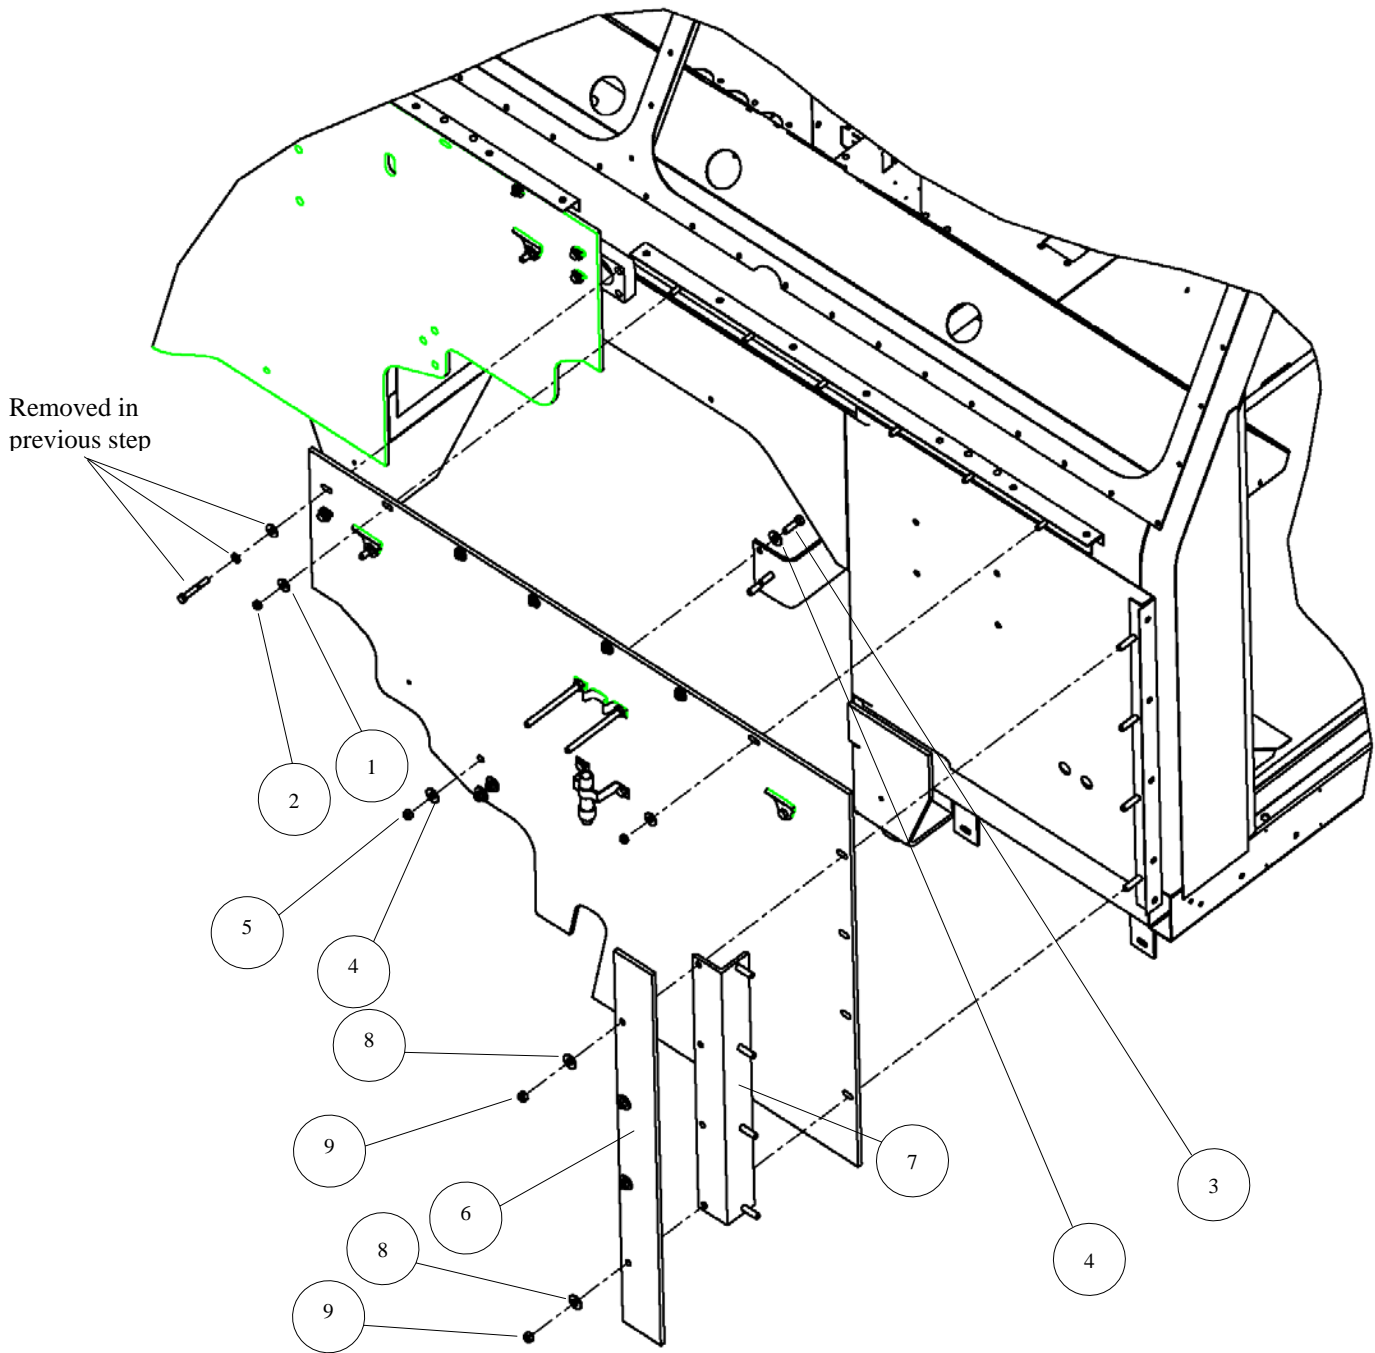

Figure 3-58. Left Firewall Panel Assembly Installation.
3. Install left firewall panel assembly as follows (see Figure 3-58):
- b. Ensure that left firewall panel assembly is correctly positioned and secure to studs using six flat washers (1) and locknuts (2). Torque locknuts to 18 lb-ft.
- c. Install three bolts (3), six flat washers (4), and three locknuts (5). Torque locknuts to 35 lb-ft.
- d. Install left-hand firewall panel (6) and firewall left-outside bracket (7) and secure with four flat washers (8) and locknuts (9). Torque locknuts to 23 lb-ft.
- e. Re-install two bolts (10), lock washers (11), and flat washers (12) removed in the previous Step 2. Torque to 13 lb-ft.